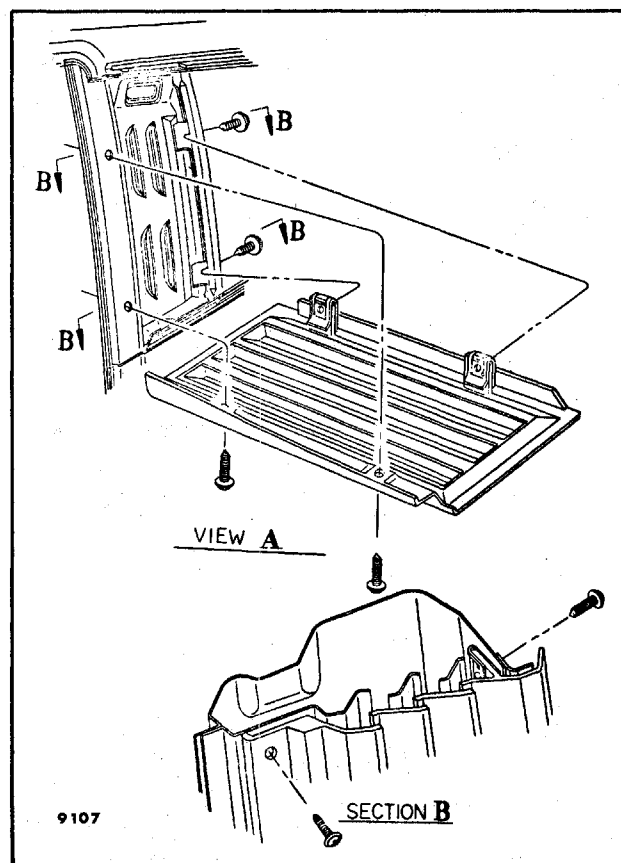

Fig. 4-20 - Louver Assembly - H-07 styles
1. Remove louver-to-body lock pillar (above belt) attaching screws (Fig. 4-20).
5. Remove louver-to-body lock pillar attaching screws from body upper lock pillar and remove louver (Fig. 4-20).